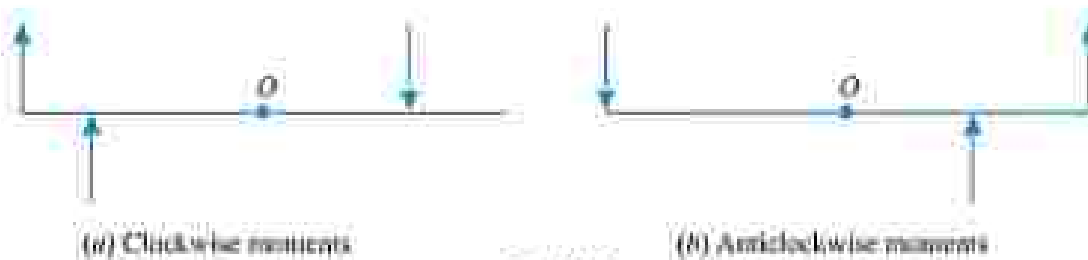

Fig. 1.25
- It is the moment of a force, whose effect is to turn or rotate the body, about the point in the same direction in which hands of a clock move as shown in Fig. 1.25 (a)
- It is the moment of a force, whose effect is to turn or rotate the body, about the point in the opposite direction in which the hands of a clock move as shown in Fig. 1.25 (b).